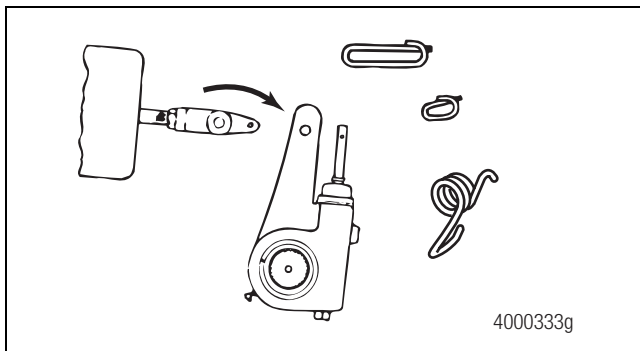

**Figure 17**
2. Push DOWN on the bottom brake shoe and remove the bottom roller by the clip. Figure 16. Pull UP on the top brake shoe and remove the top roller by the clip. Figure 17. Remove the retainer springs and pull the brake shoes off the brake spider. Figure 18.